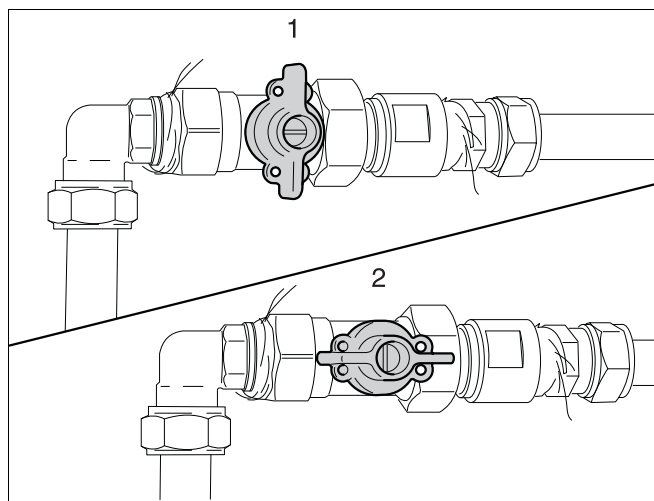

fig. 73 Gas shut-off valve closed (1), gas shut-off valve open (2)
- Close the gas shut-off valve (see fig. 73, pos. 1).